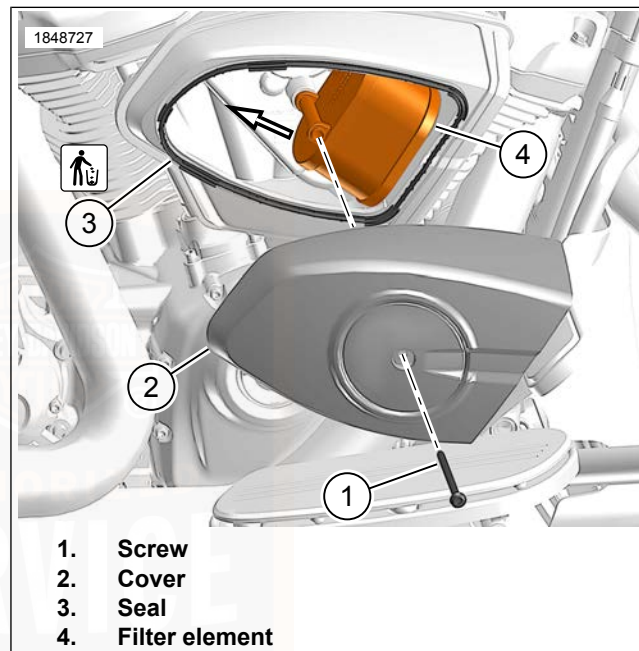

Figure 101. Air Filter Element
1. See Figure 101. Remove air cleaner cover.
- a. Remove screw (1).
- b. Remove cover (2).
- a. Move filter element (4) to the rear at an upward angle to disengage from snorkel.
- c. Remove seal (3). Inspect for damage or wear.
2. Replace seal (3) if damaged or worn.
3. See Figure 101. Install filter element.
- a. Install filter element (4) onto snorkel and press forward into position.
- b. Align seal (3) with groove in air filter housing. Install seal.
- a. Install cover (2).
- b. Install screw (1). Tighten.